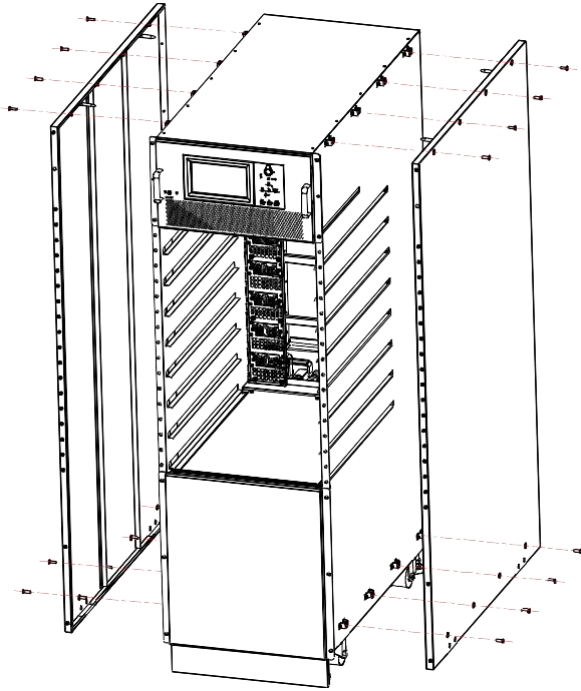

Figure 3-7 Remove the side door of the cabinet
- Remove the side door of the cabinet, as Figure 3-7 shows;